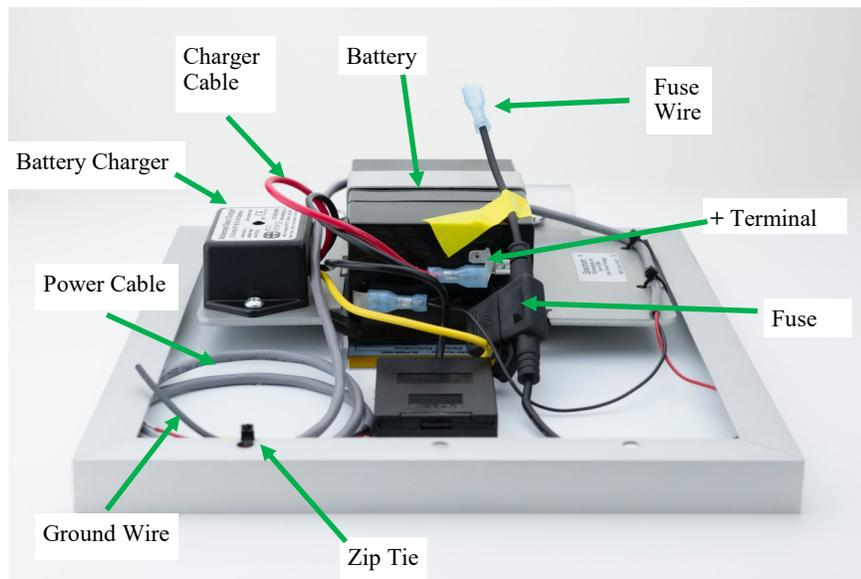

Figure 1:
- Solar panel/charger/battery assembly (fig. 1)
DO NOT attach the charge cable to the battery's positive terminal until the WatchDog unit is completely connected. To avoid possible damage to the Solar Power Package, or your WatchDog device, the Solar Power Package is shipped with the charger cable disconnected from the positive terminal of the battery (fig. 1). The fuse connected to the WatchDog Power Cable protects the system if the red and black wires touch while connected to the battery.
3. Clip the zip tie that attaches the power cable to the frame. Pull the protective heat shrink off the ground cable (fig.1).